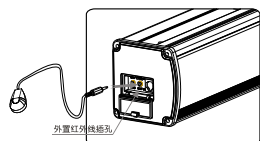

Figure 44
2. For hidden installation or IR window is blocked by something, please take out the External IR Receiver and plug its head to the relevant hole, and then fix it at the position where IR signal is available. (Figure 44)